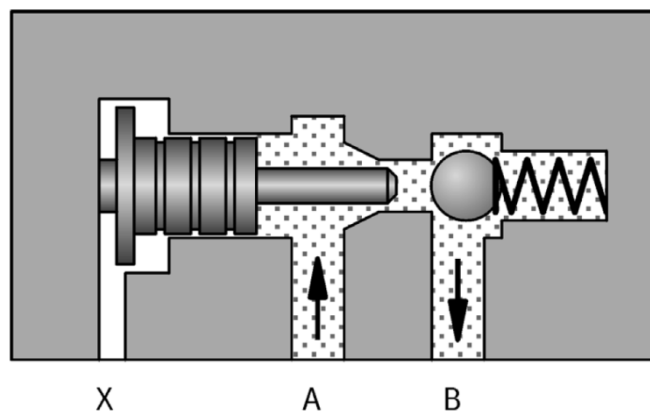

FIG 11.
- Flow is possible from ports "A" to "B". (Fig 11)